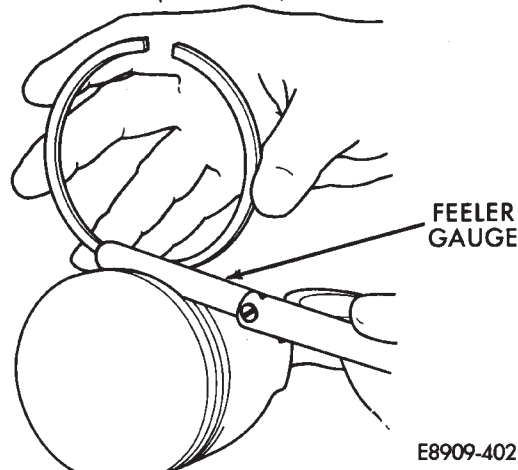

Fig. 19 Ring Side Clearance Measurement
(1) Carefully clean the carbon from all ring grooves. Oil drain openings in the oil ring groove and pin boss must be clear. DO NOT remove metal from the grooves or lands. This will change ring-to-groove clearances and will damage the ring-to-land seating.
(2) Measure the ring side clearance with a feeler gauge fitted snugly between the ring land and ring (Fig. 19). Rotate the ring in the groove. It must move freely around circumference of the groove.